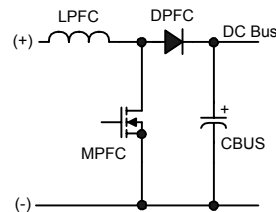

Figure 6: Boost-type PFC circuit
In most electronic ballasts it is necessary to have the circuit act as a pure resistive load to the AC input line voltage. The degree to which the circuit matches a pure resistor is measured by the phase shift between the input voltage and input current and how well the shape of the input current waveform matches the shape of the sinusoidal input voltage. The cosine of the phase angle between the input voltage and input current is defined as the power factor (PF), and how well the shape of the input current waveform matches the shape of the input voltage is determined by the total harmonic distortion (THD). A power factor of 1.0 (maximum) corresponds to zero phase shift and a THD of 0% represents a pure sine wave (no distortion). For this reason it is desirable to have a high PF and a low THD. To achieve this, the IR2166 includes an active power factor correction (PFC) circuit which, for an AC line input voltage, produces an AC line input current. The control method implemented in the IR2166 is for a boost-type converter (Figure 6) running in critical-conduction mode (CCM). This means that during each switching cycle of the PFC MOSFET, the circuit waits until the inductor current discharges to zero before turning the PFC MOSFET on again. The PFC MOSFET is turned on and off at a much higher frequency (>10KHz) than the line input frequency (50 to 60Hz).